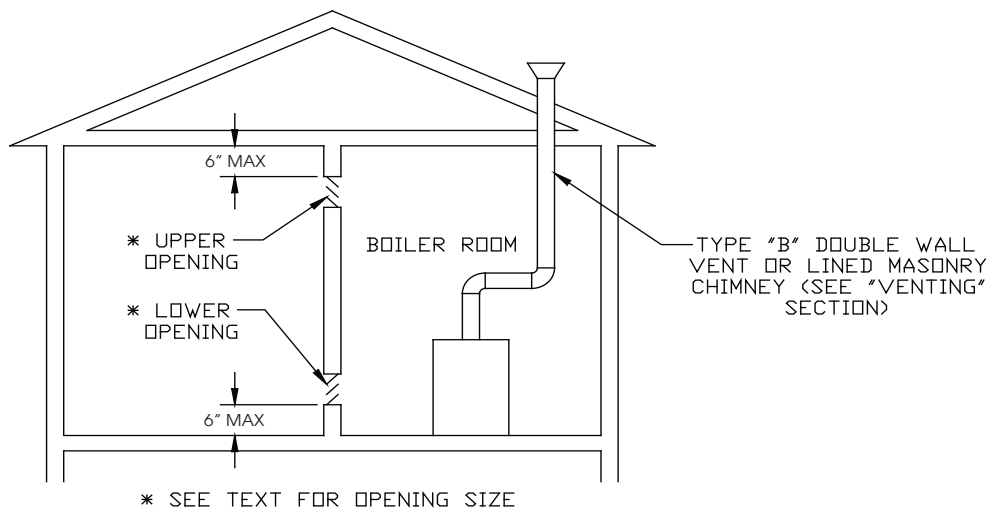

FIGURE 5.1: INDOOR COMBUSTION AIR METHOD
- 4) If the result is at least 50 ft³ per 1000BTU/hr, and neither of the conditions described in (6) below are met, normal infiltration should provide adequate fresh air into the boiler room.
- 5) If the result is less than 50 ft³ per 1000BTU/hr, provide two openings into the boiler room, one near the floor and one near the ceiling. The top edge of the upper opening must be within 6” of the ceiling and the bottom edge of the lower opening must be within 6” of the floor (Figure 5.1):